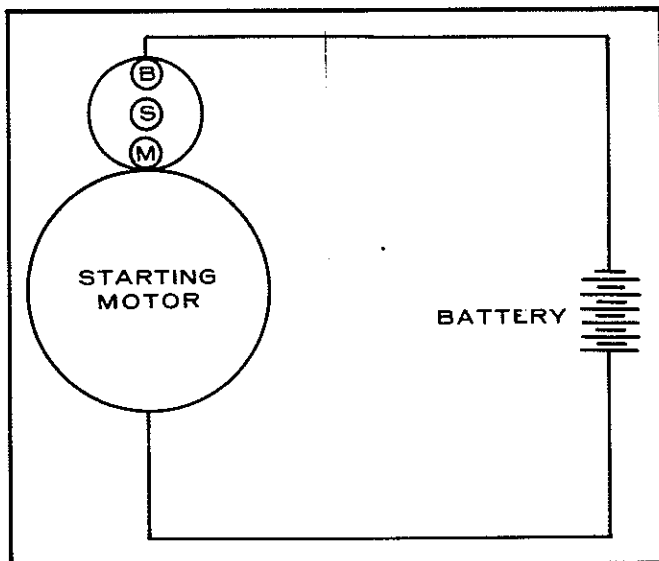
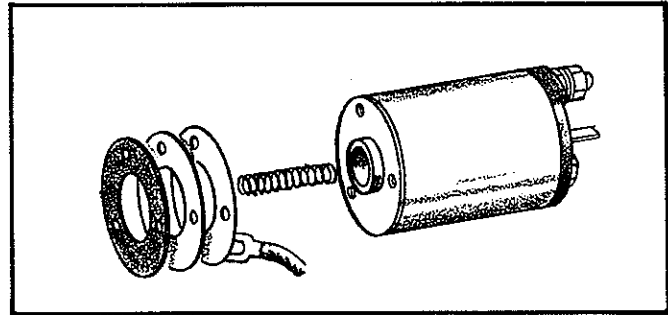

FIGURE 18-24. BATTERY CONNECTIONS
FIGURE 18-25. ADJUSTING PINION CLEARANCE
2. **Adjusting Pinion Clearance:** Connect the battery to the starting motor (Figure 18-24). This allows the starter motor pinion to slide and stop. Measure the clearance between the end of the pinion and pinion stopper when the pinion is pushed lightly toward the commutator end. The clearance should be .02 inch to .06 inch (.508 to 1.524 mm). Adjust for proper clearance by removing the magnetic switch attaching screws and select the proper thickness of fiber packings (Figure 18-25).